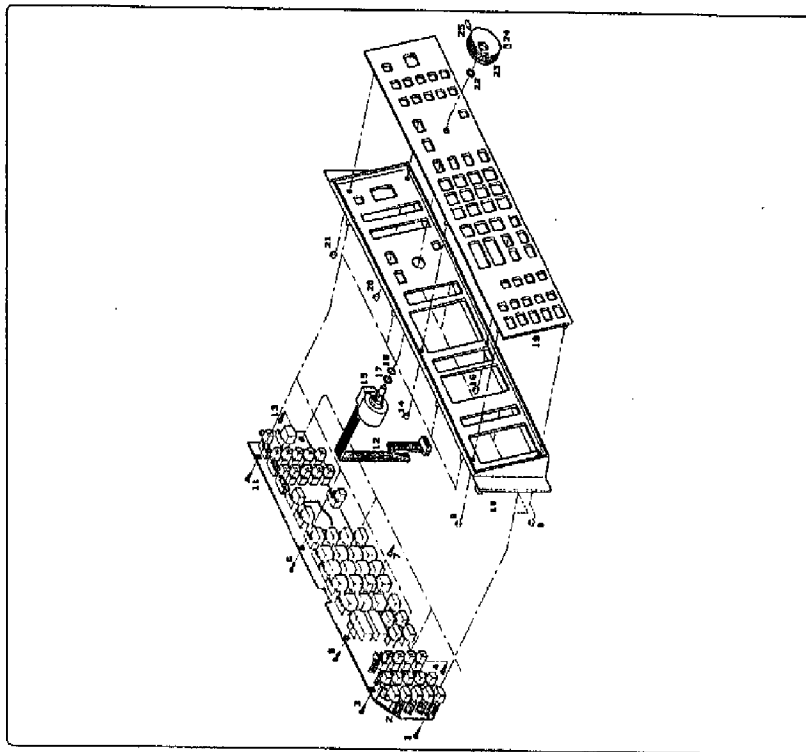

Figure 8-32. A1A2 Keyboard Removal
- a. The A1A2 Keyboard Assembly can be removed using the following procedure in conjunction with Figure 8-32 A1A2 Keyboard Removal.
- c. Remove the assembly while moving the rotary pulse generator cable item 12 through the opening in the board.